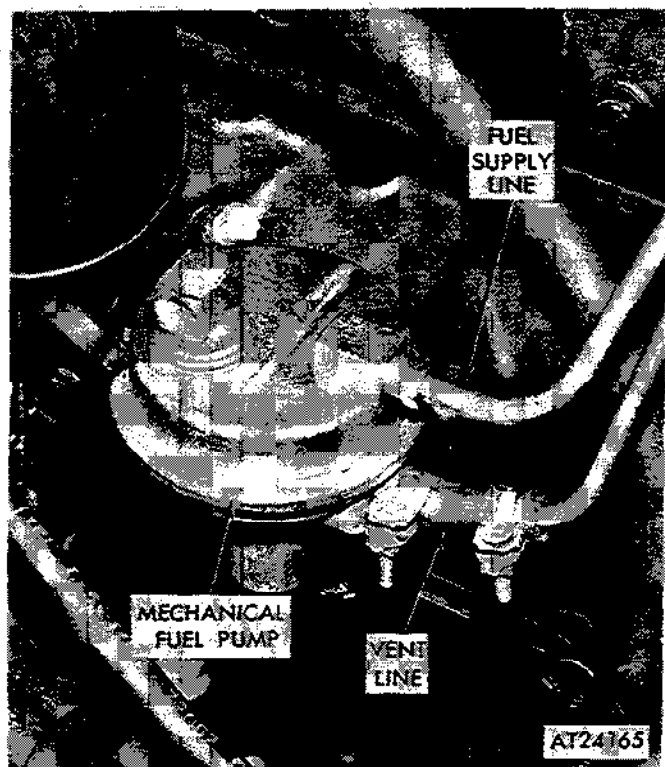

Figure 2-111. Removing or installing mechanical fuel pump (M151A2, M825, and M718A1 vehicles).
(2) Disconnect vent and fuel supply lines at fuel pump (fig. 2-111).
(3) Remove two screws and lockwashers securing fuel pump to engine block. Remove pump and gasket. Discard gasket.